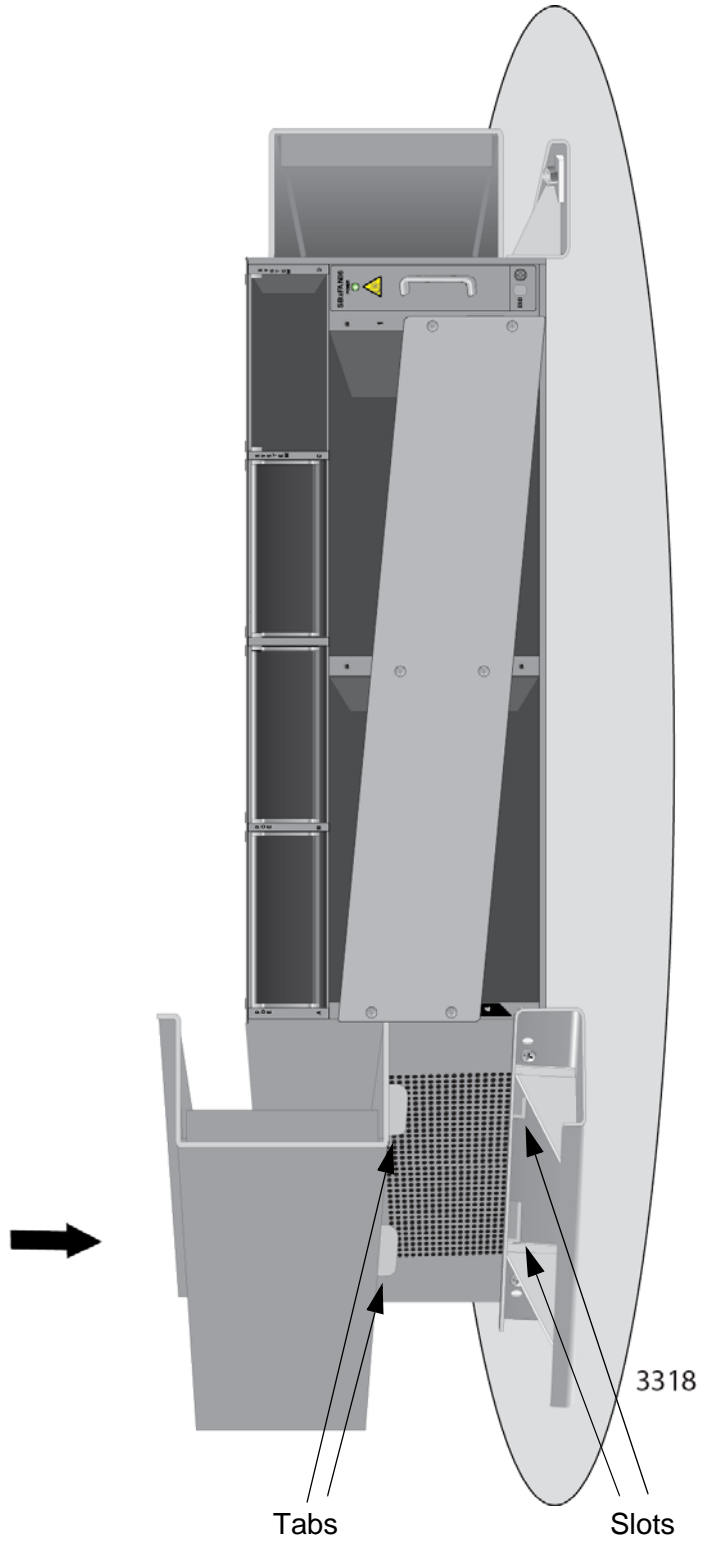

Figure 23. Installing the Bottom Vent Cover
3. Slide the second vent cover over the bottom vents. The tabs on the cover fit into the slots on the bracket. Refer to Figure 23.